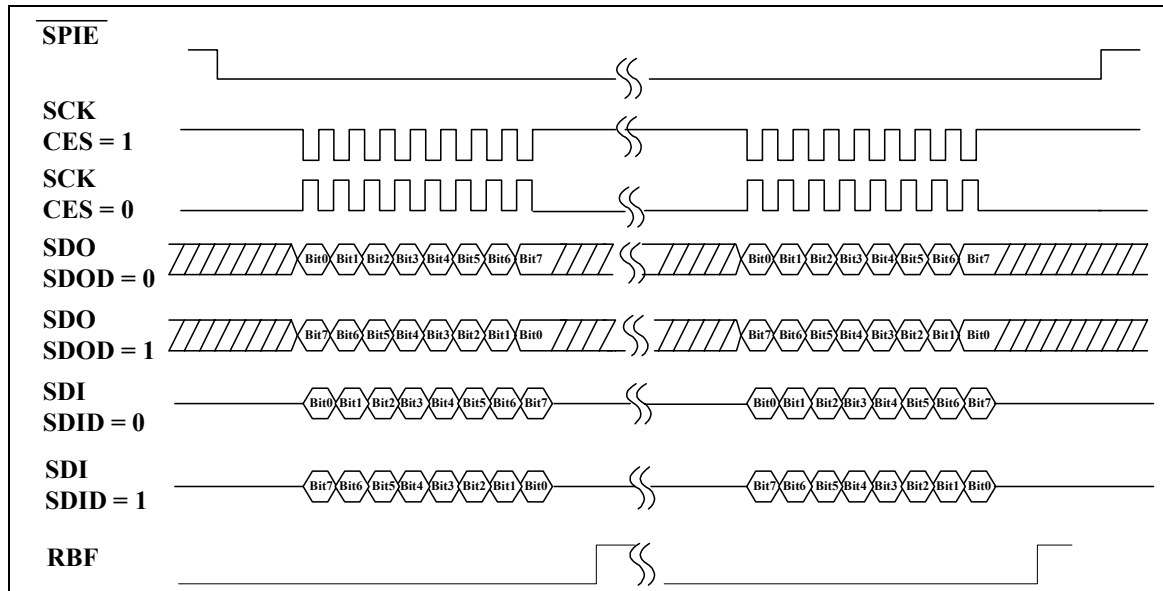

Fig. 10-2 SPI Transceiver Timing Diagram
The following subsections describe the function of each blocks and signals. Fig. 10.2 depicts how the SPI communication is carried out.
- Timing is shown in Fig. 10-2.
- Timing is shown in Fig. 10-2